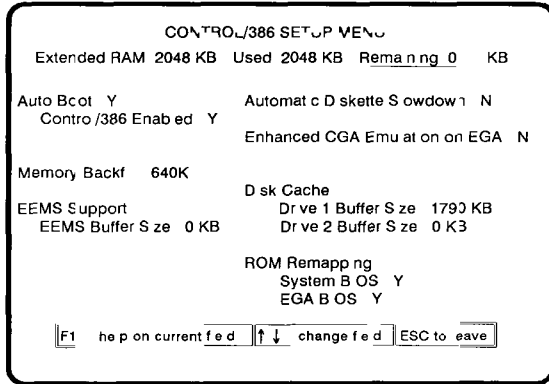

Figure L 1 Control/386 Setup Menu
5. The CTRL386 Setup Menu will be displayed to the screen. Fill in each field as shown in Figure L 1.